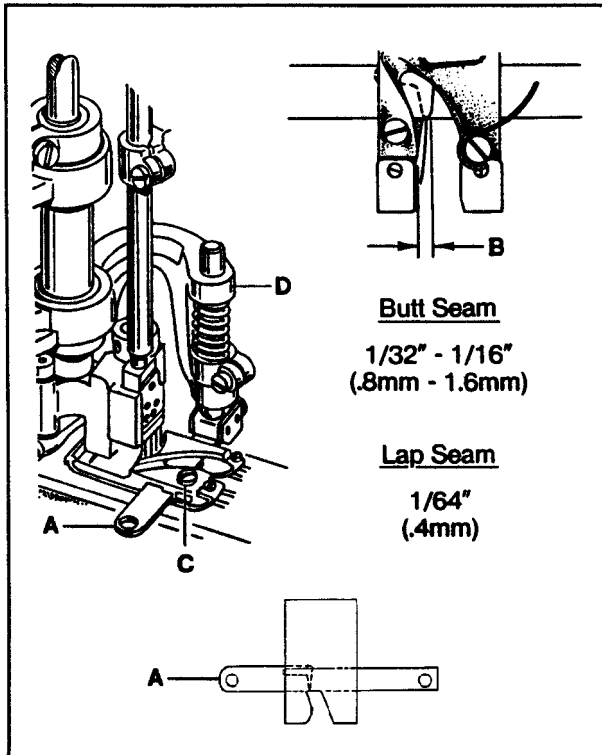

FIG. 29
To make the adjustments for a lap seam, position lower knife (A, Fig. 29) in the foot so it extends  $\frac{1}{64}$ " (0.4mm) past the right side of the left toe (B) (approximately even with the first needle). Loosen screw (C) and move knife in or out as required. Tighten screw (C) securely.